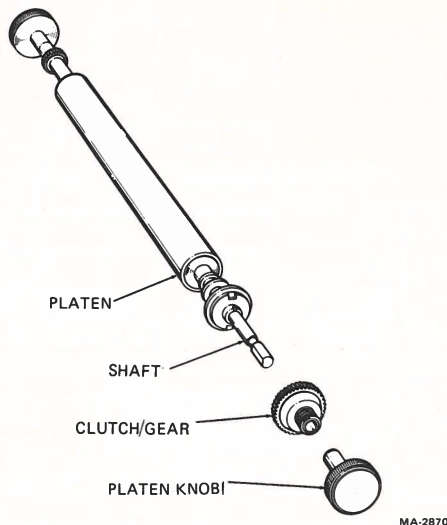

Figure 2-5 Platen Clutch/Hub Assembly
2. Using a small-blade screwdriver, lift the tab on the end of the platen knob enough to release the knob from the platen shaft (Figure 2-5).